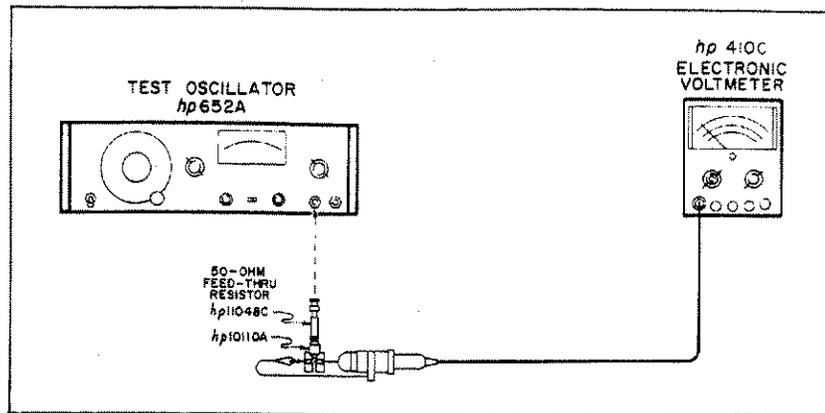

Figure 5-2. Low Frequency Response Test.
- b. Connect Model 410C as shown in Figure 5-2.